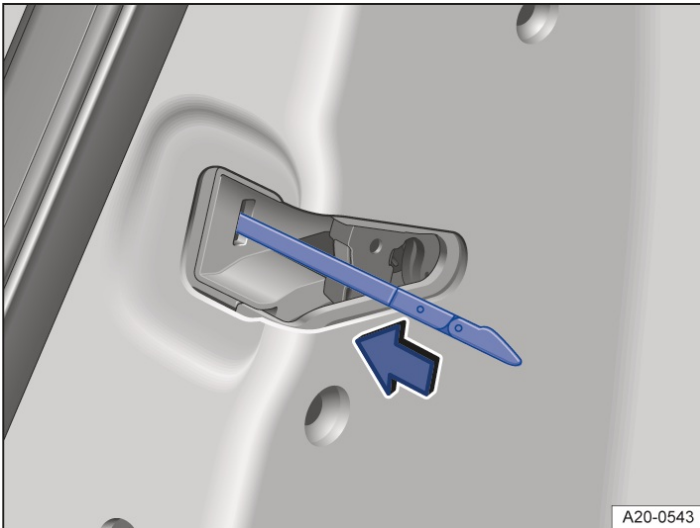

Fig. 2 In the front edge of the rear right-hand door:
3. Insert the spare key in the vertical slot and turn → Fig. 1 or → Fig. 2.